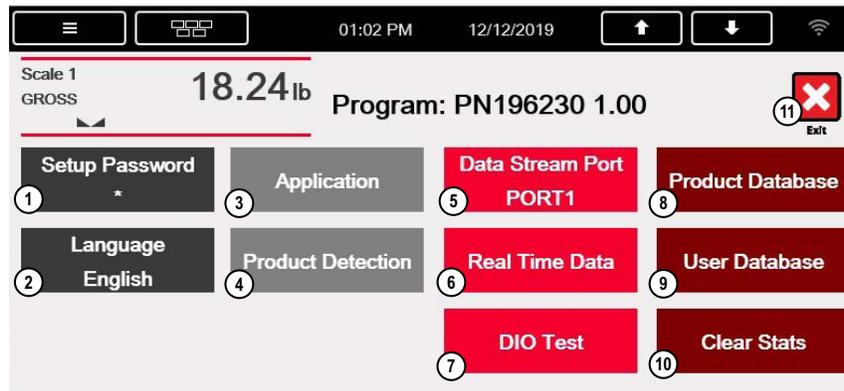

Figure 4-1. Setup Menu
5. Sends out data string (Section 4.6 on page 24) out the configured port (either Port 1 or TCP Client 1. See Figure 4-1 on page 21).
1. Press Setup in the weigh mode display. See Figure 4-1.